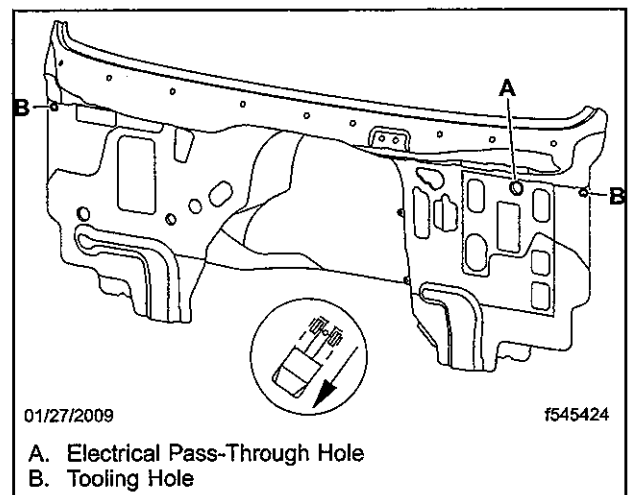

Fig. 12, Frontwall Holes
23. At the vehicle, find the two tooling holes on the upper edge of the exterior frontwall that were covered by the cowl side-panels, and the one larger electrical pass-through hole, above the clutch, as shown in Fig. 12.